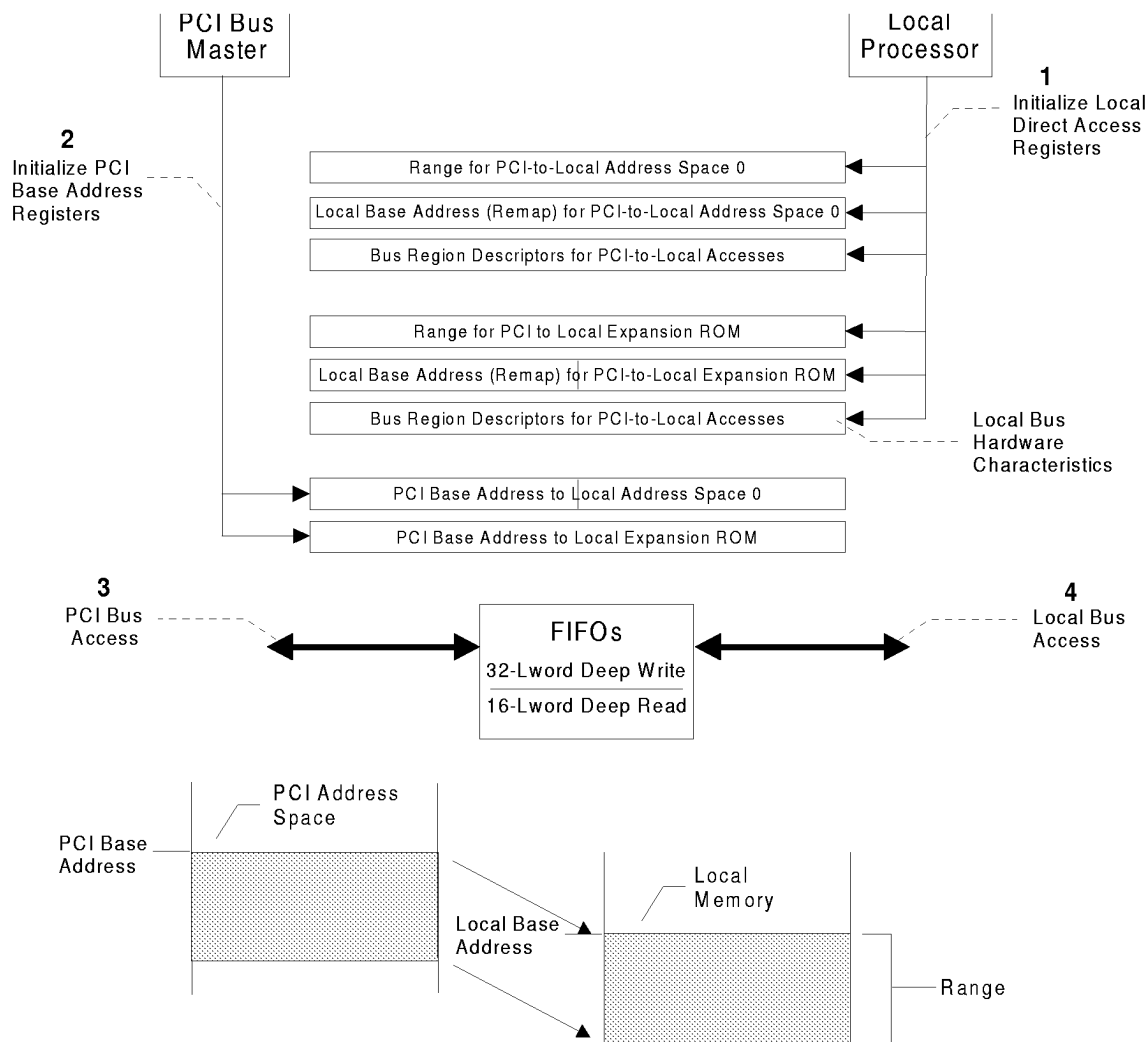

Figure 5-9. Direct Slave Access of the Local Bus
A fourth register, the Bus Region Descriptor register for PCI-to-Local Accesses (LBRD0 and/or LBRD1), defines the Local Bus characteristics for the Direct Slave regions (refer to Figure 5-9).
After a PCI reset, the software determines how much address space is required by writing all ones (1) to a PCI Base Address register and then reading back the value. The PCI 9054 returns zeroes (0) in the Don't Care Address bits, effectively specifying the address space required. The PCI software then maps the Local Address space into the PCI Address space by programming the PCI Base Address register. (Refer to Figure 5-9.)